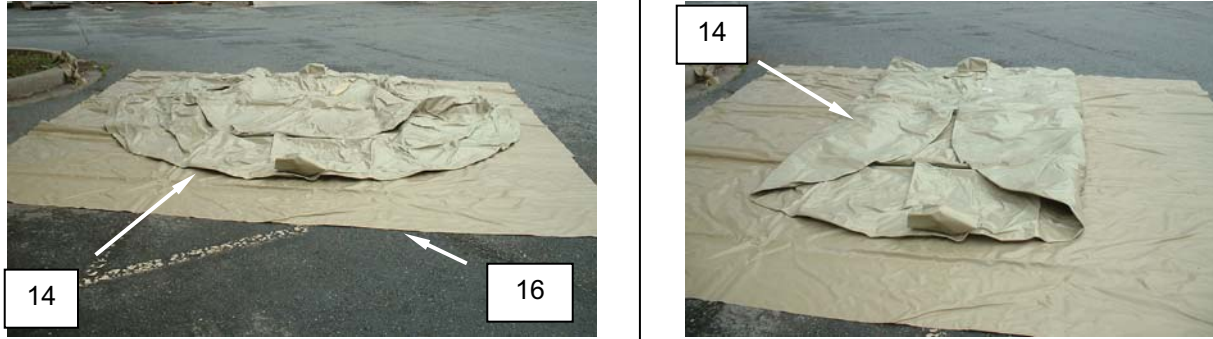

Figure 13. Prepare the 3000 Graywater Tank for Movement.
11. After the tank (Figure 13, Item 14) has been dried, lay out the tank ground cloth (Figure 13, Item 16) with the ties down, and then lay out the tank in the center of the ground cloth. Fold the sides of the tank to touch as shown in Figure 4.